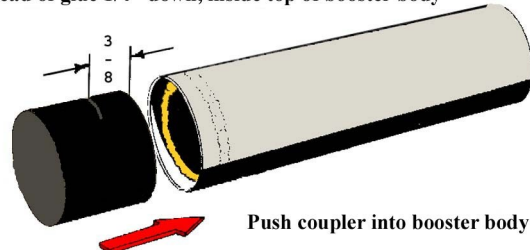

Figure 9
- **Step 15** Mark the HTC-8 coupler 3/8" from one edge, as shown in Fig. 9. Apply a 1/4" wide bead of glue around the inside of the top end of the booster tube, and insert the short side of the coupler into the top of the tube. Make sure the coupler is aligned in the tube straight, and not with any angle off-center.